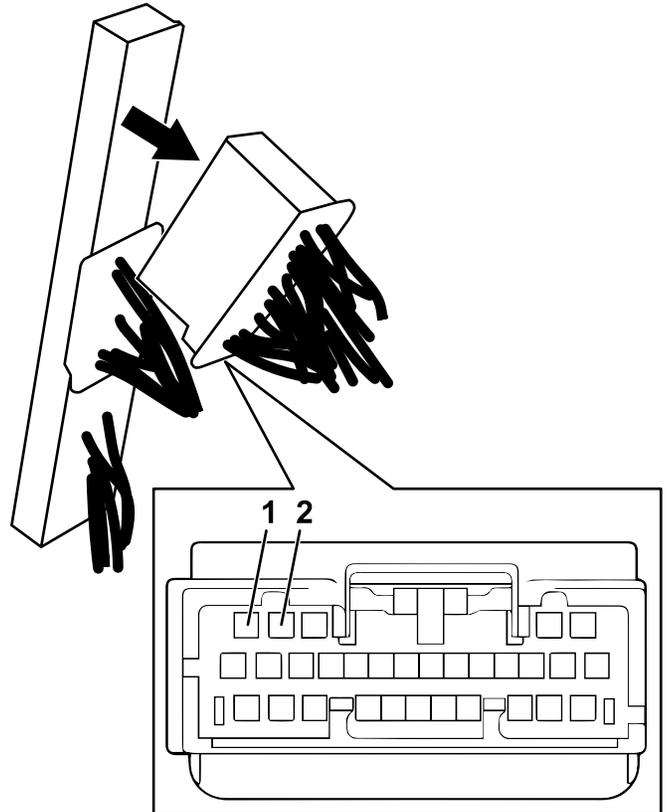

Figure 19
2. Locate the white 30-pin connector at the top of the row of connectors and remove it (Figure 19).
3. Locate the black wire in pin #1 and the white wire in pin #2 of the connector (Figure 19).